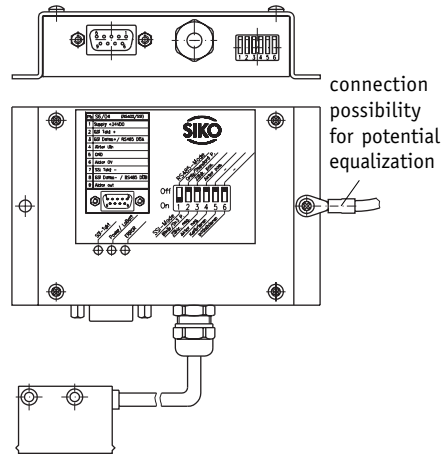

Fig. 1: Mounting / connections
The unit has been designed for screw fixation - via the lateral mounting tabs / bores. (s. Fig.1)
- To ensure flawless functioning of the device, expert connection to potential equalization is indispensable. To enable this, each a ring eye for connecting a max. 2.5mm² cable, alternately a tab as well as a tooth lock washer are enclosed in the delivery. The connection should be as short as possible. (see fig.1).